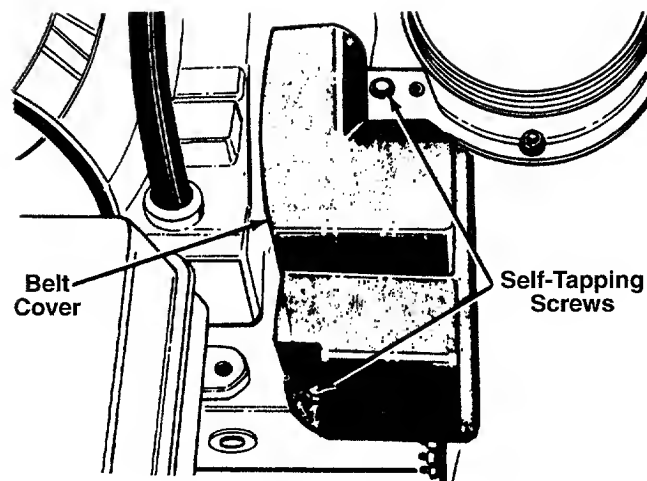

FIGURE 21
- Remove the plastic belt cover on the front of the engine by removing two self-tapping screws. See figure 21.
- Remove the plastic belt cover on the front of the engine by removing the two self-tapping screws. See figure 21.